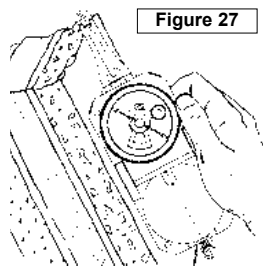

Figure 27
2. Place GEO on its side and along on the rock surface, so the vernier scale is at the bottom. (Fig 27)